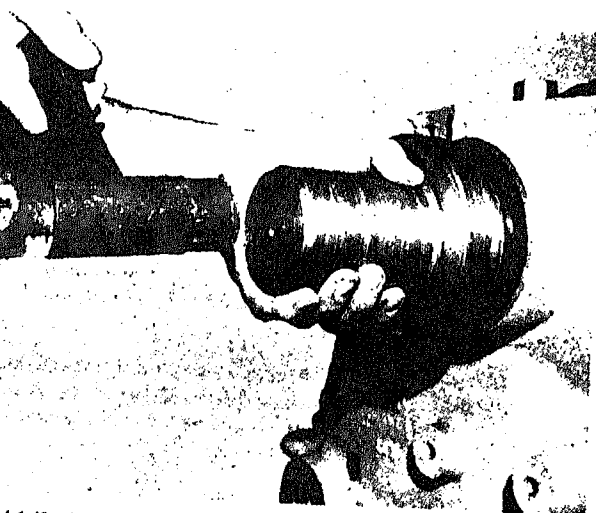

Fig. 14-1-49. Installing crankshaft oil seal
3. Install oil seal in bore with Mandrel and soft hammer, Fig. 14-1-49. Steel spring side of seal must go in bore first. Drive seal into bore until outer edge of seal is at least 0.030 in. [0.7620 mm] inside of bore shoulder.